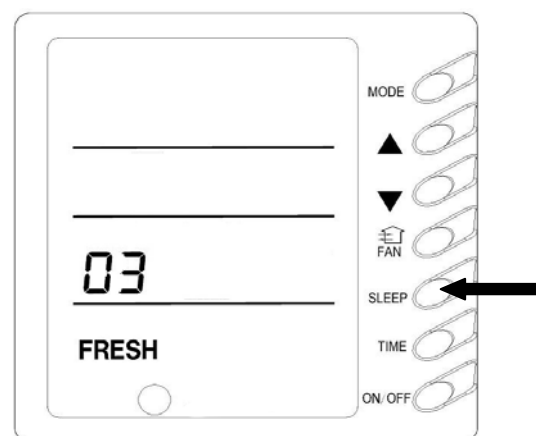

Fig. 8
7) Setting of Fresh Air Valve (Fig. 8)